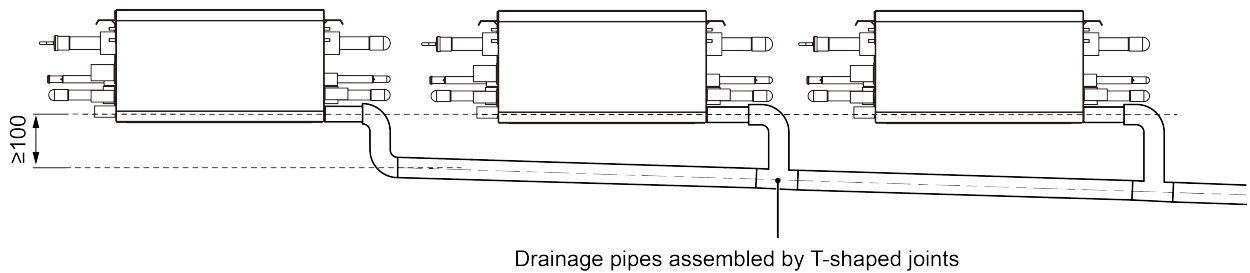
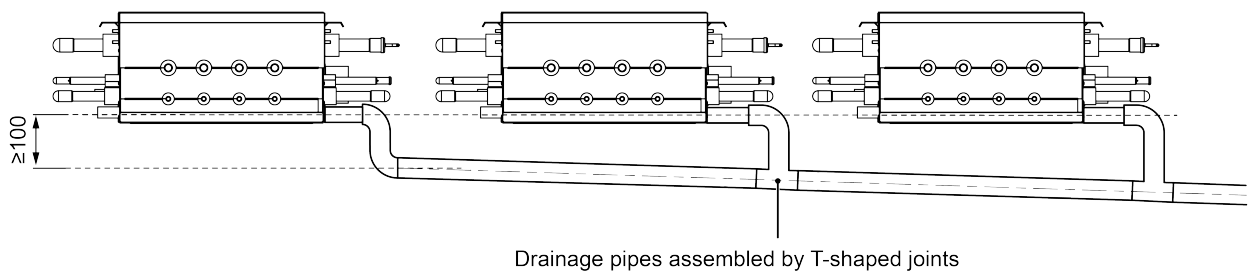

Fig.4.3.4
Fig.4.3.5
- (4) When multiple drainage pipes are connected together, connection pipes as shown in Fig.4.3.4 or Fig.4.3.5.